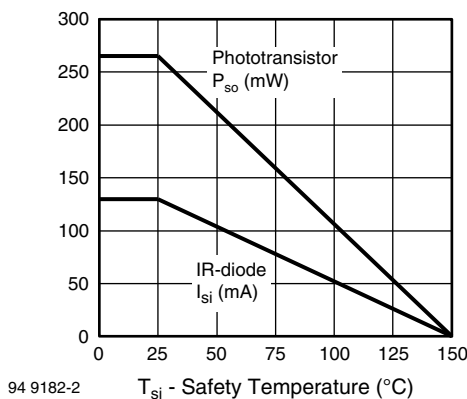

Fig. 2 - Derating Diagram
- According to DIN EN 60747-5-2 (VDE 0884) (see figure 2). This optocoupler is suitable for safe electrical isolation only within the safety ratings. Compliance with the safety ratings shall be ensured by means of suitable protective circuits.